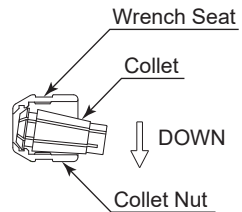
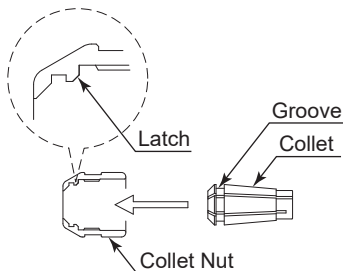
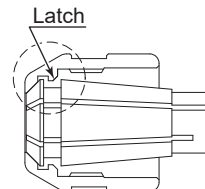

Fig. 7
Fig. 8
Fig. 9
- (2) The collet and collet nut are secured by a groove in the collet and a flange in the collet nut. To remove the collet hold the collet nut in one hand and push diagonally down on the collet. The collet should be released (Fig. 7).
- (3) To install the collet, hold the collet at a slight angle, and insert it into the collet nut (Fig. 8). Press the collet in the collet nut by positioning the collet in the collet nut and pressing down on flat surface (Fig. 7). Be sure to fully engage the latch inside the collet nut into the groove on the collet outer circumference area (Fig. 9).